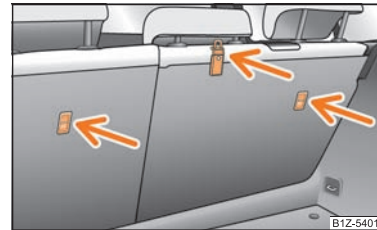

Fig. 110 Rear seat: Top Tether
In certain countries national legal provisions also require the equipment of the rear seat with fixing eyes for child seat using the “Top Tether” system ⇒ fig. 110.
- Attach the child seats with the “Top Tether” system only to the points provided for this purpose ⇒ fig. 110.